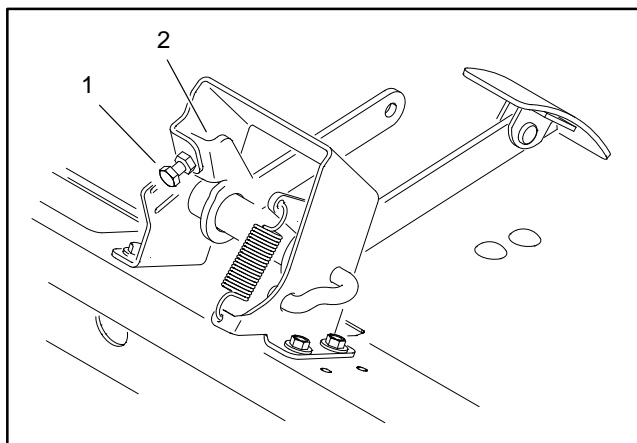

Figure 3
7. Adjust idle stop bolt at accelerator pedal to assure the cable is loose enough to allow the engine throttle arm to fully return to idle (Fig. 3). There is no adjustment at the engine low speed stop bolt.